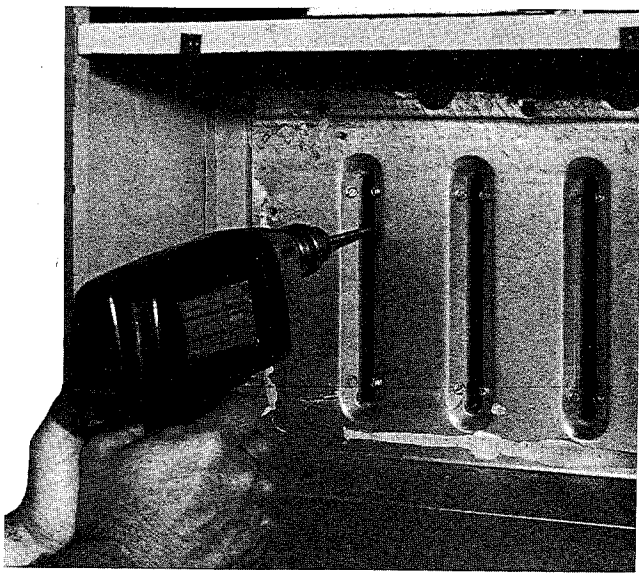

Fig. 18 — Cleaning Heat Exchanger Cell
- 2) Insert brush end of cable into upper opening of cell and slowly rotate with drill. *Do not* force cable. Gradually insert at least 3 ft of cable into 2 upper passes of cell. See Fig. 18.